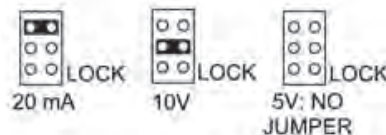

Figure 16. JP1 Input Signal Selection Array.
1. Make sure the jumper on JP1, is set for the desired input (see Figure 16, page 32).